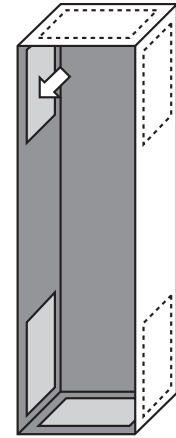

fig. 4
2. Install the 3M™ Vibration Control Tape to the inside of the top and side walls of the housing (fig.4).